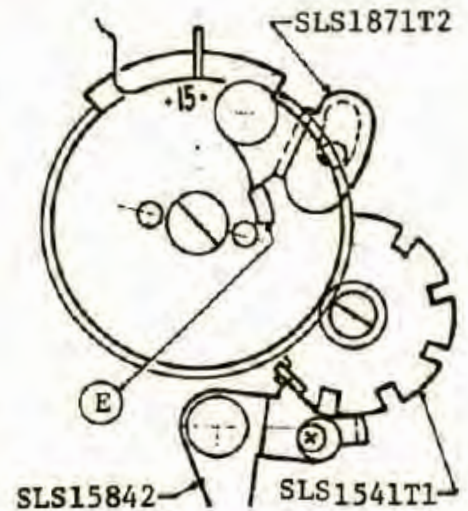

Fig.77-1
When winding the film advance lever more after the fixed number of exposures have been taken (15), turn of the exposure counter is stopped because the (E)-protrusion on back of SLS15521 Film counter base strikes against the SLS1571T2 Change-over lever as shown in Fig. 77-1.
Above means that the end (B) of SLS15842 Stop lever is on the top of the dividing device and can not get into its groove as shown in Fig. 77-1 and 77-2.
4) (1)-Friction gear that conveys rotation of the friction wheel engages with (2)SLS-1531S1 Film counter gear No. 1.